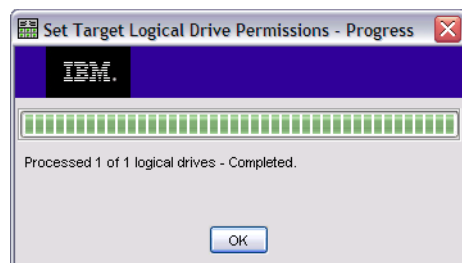

Figure 11-52 Change Permissions Completed
3. The progress window shows you when the change is completed (Figure 11-52).